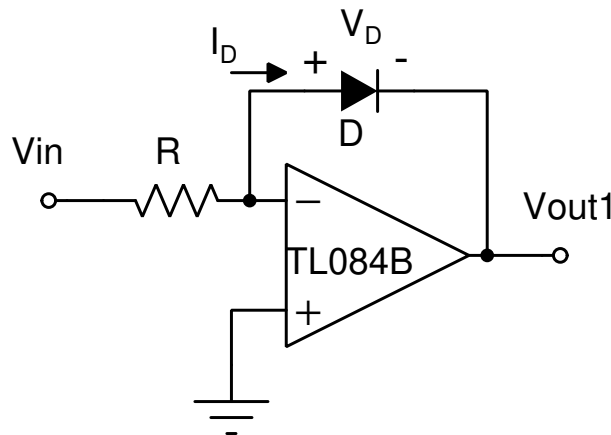
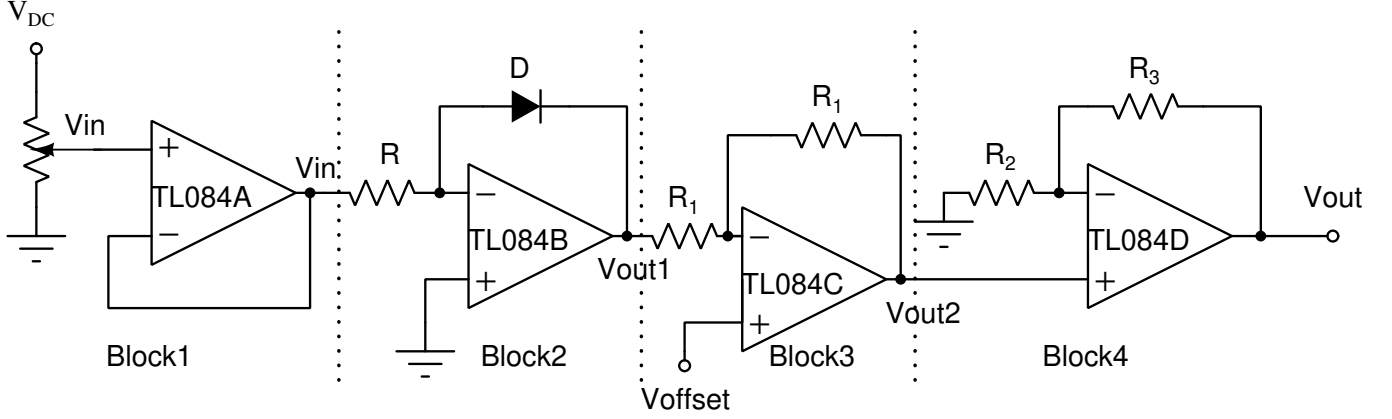

Figure 1: Basic log-amp circuit. For this circuit to function as a log-amp, the polarity of the input voltage should be positive.
Figure 2: Complete logarithmic amplifier circuit.
A voltage can be easily converted to a current using the inverting amplifier configuration. You may please draw the circuit in your note book. The voltage applied to the input resistor is converted to a current, $I = V_{in}/R$, where R is the input resistor connected to the inverting terminal of the amplifier. The same current I is then forced through the device connected between the output of the op-amp and the inverting terminal. The device can as well be a diode. The circuit is given in figure 1.
From figure 1,
Equation (8) tells us that the output of the circuit in figure 1 is the natural logarithm of the input scaled by a factor a_1 and then offset by a_2 . We can remove the offset by subtracting a_2 from V_{out1} . The result can then be multiplied by $1/a_1$ using a suitable amplifier, to obtain at the output the true natural logarithm of V_{in} . The complete circuit is shown in figure 2.